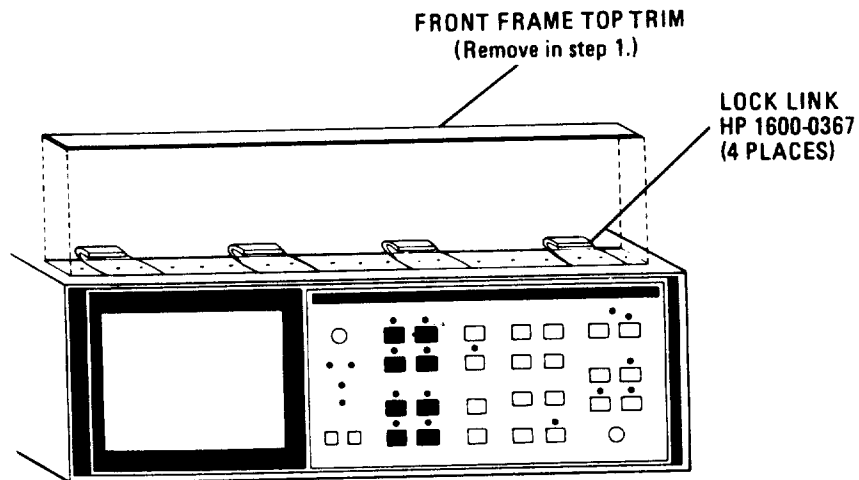

Figure 1-9. Installation of Lock Links on the Spectrum Analyzer
1. Remove the front-frame top trim from the spectrum analyzer (see Figure 1-9).
2. Fasten the lock links supplied with the quasi-peak adapter to the top of the spectrum analyzer frame, as in Figure 1-9.